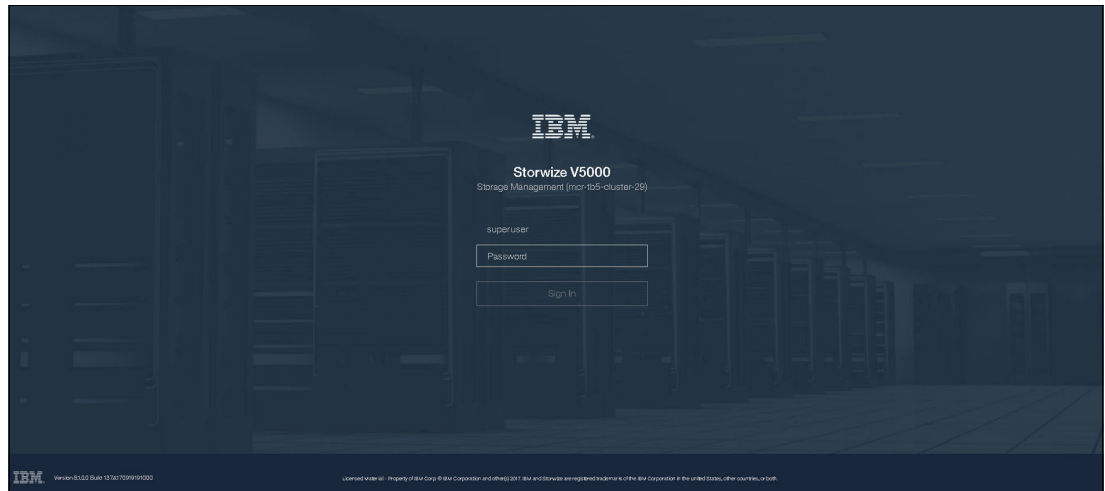

Figure 2-22 Setup wizard: Password prompt
2. Enter a new secure password twice for the superuser user (see Figure 2-22). Click **Log in**.